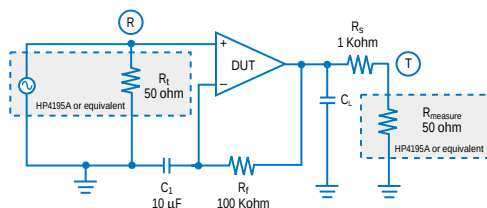

Fig.1: Circuit To Measure Phase Margin Under Capacitive Loading
One of the internal op amp parameters which effects cap load drive performance is R_{OUT} , output impedance. In fact, an ideal op amp with zero output impedance will be able to drive "any" capacitance with no phase margin (PM) degradation. However, in reality, for almost all cases, R_{OUT} cannot be ignored. By using a network analyzer (HP4195A or equivalent) and the circuit shown in Fig. 1, it is possible to measure closed loop performance under capacitive loading: